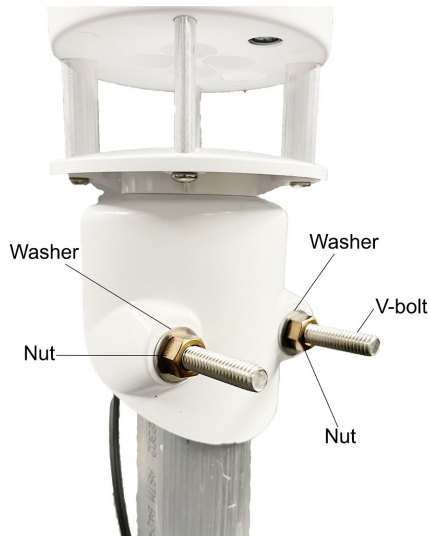

Figure 7-2. ClimaVue 50 G2 mounted to a pole with V-bolt and nuts
- Loosely mount the ClimaVue 50 G2 to the tripod mast, CM300-series pole, or mounting tube by using the V-bolt, washers, and nuts (Figure 7-2 [p. 15]).